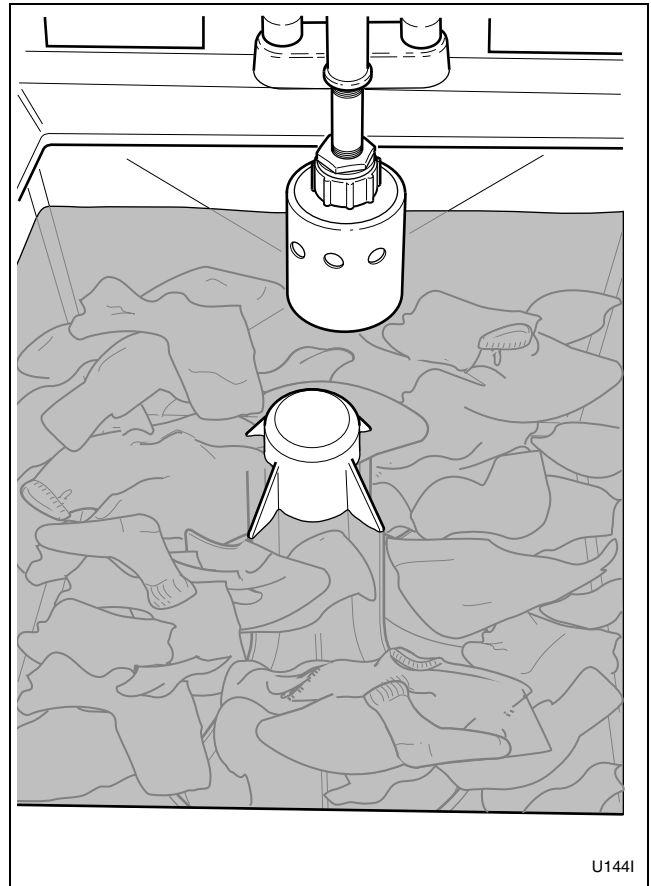

Figure 9
6. Place washables in compartment. Distribute evenly around agitator. Refer to *Figure 9*.